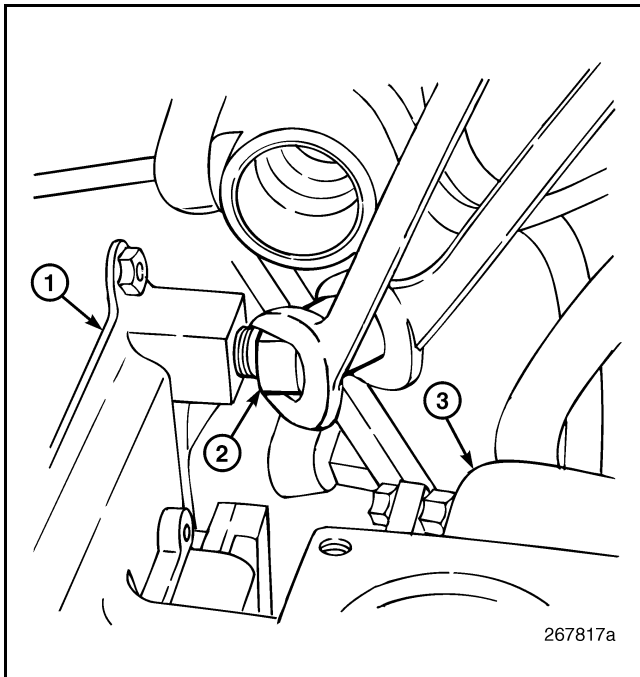

Figure 464 — Cooling Plate Fuel Lines
- Disconnect the fuel lines at the inlet and outlet ports at the top of the cooling plate (Figure 464) and position the lines out-of-way.
- Connect the fuel lines to the inlet and outlet ports of the cooling plate (Figure 464).